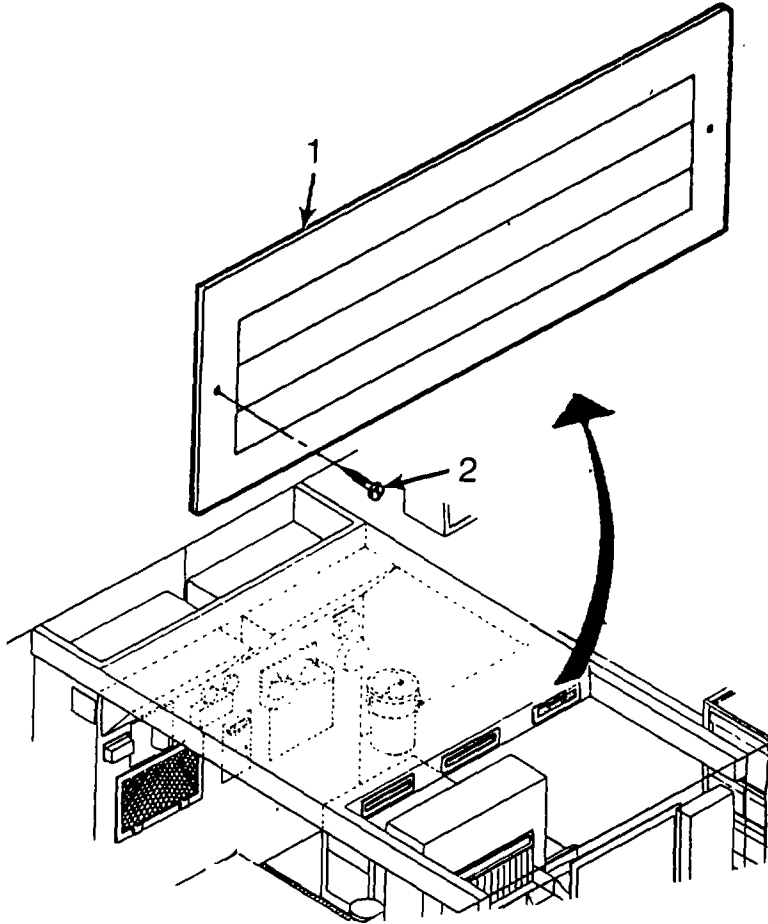

Figure 4-8. End Registers
b. Repair by replacing end register (1). (See figure 4-8.)
- (1) Remove mounting screws (2) and remove end register (1) from AC ducting assembly (3).
- (2) Align replacement end register (1) over holes in AC ducting assembly (3) and secure in place with mounting screws (2).